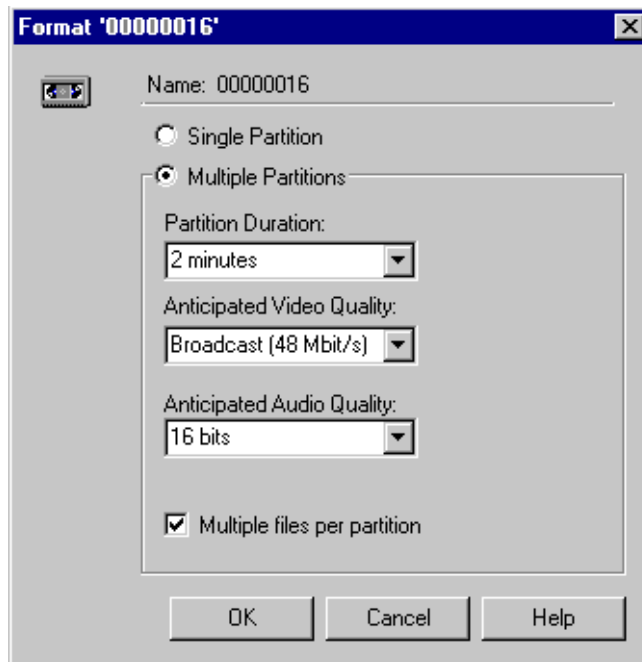
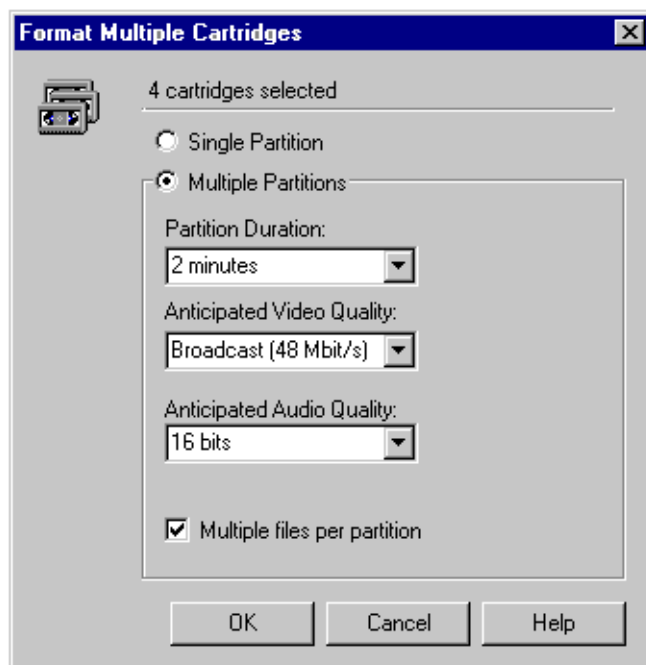

Figure 41. Format Cartridge dialog box
Figure 42. Format Cartridge dialog box
2. Choose **Format** from the **File** menu or from the shortcut menu with a right-click. The Format dialog box appears (see Figure 41). The Name field shows the name or names of the cartridges to be formatted. If more than one cartridge is selected, the number of cartridges is shown (see Figure 42).